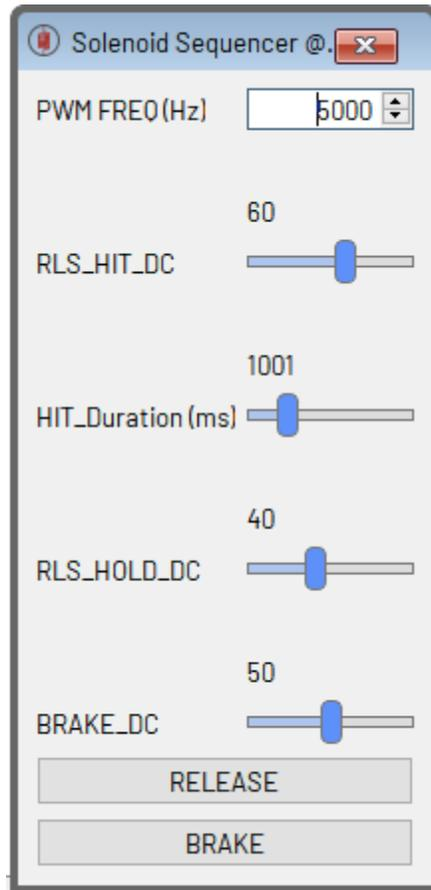

Figure 5. MAX22215 Solenoid Sequencer Window
11. Solenoid **Sequencer** (Figure 5): This tool can set the release hit duty cycle, release hold duty cycle, release hit time, and brake duty cycle. Use the following steps to operate this tool: